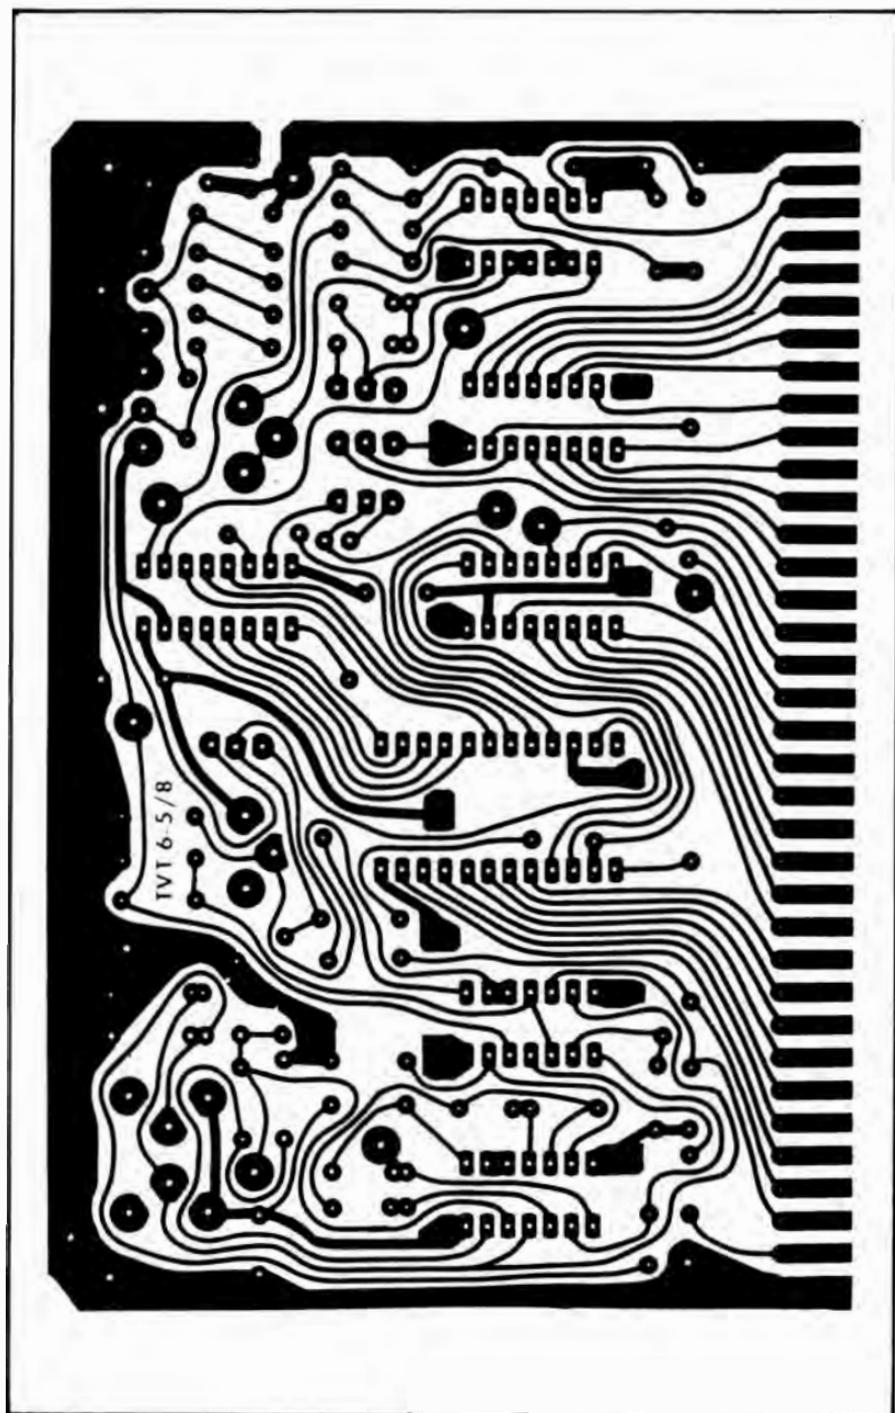
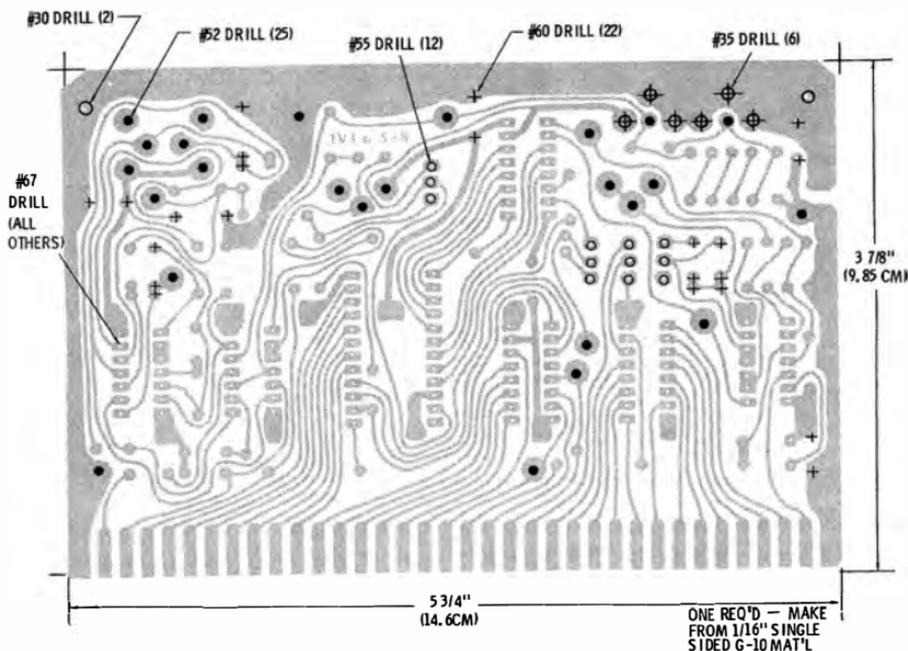
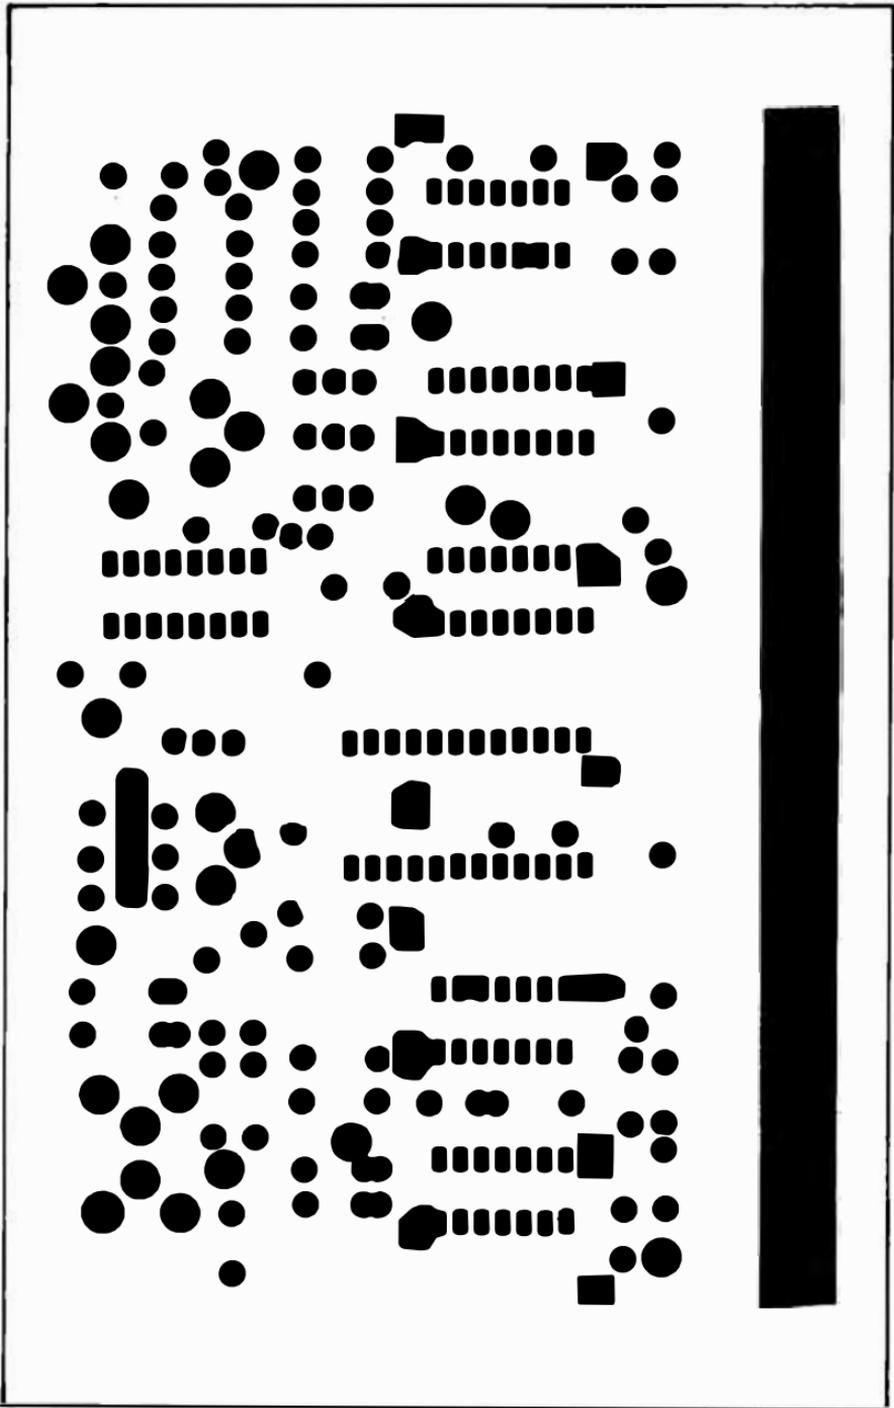

Fig. 4-4. Full size pc board pattern for TVT 6 5/8.
Fig. 4-5. Mechanical and drilling details for TVT 6 5/8.
Fig. 4-6. Solder mask for TVT 6 5/8 (full size).
MISC.	Pc board, etched and drilled (see Figs. 4-5 through 4-7); bus strips for + and ground (see Figs. 4-8 and 4-9); data-to-video IC7 programming modules (see Figs. 4-10 through 4-14); jumper material; pc test point terminals (11); insulated sleeving; solder; 24-pin IC socket (1); 16-pin IC sockets (3); 14-pin IC sockets (3); Optional—36-pin 0.156" single entry pc connector; Optional—output cable, shielded phono jack to miniature phone
A full size printed-circuit layout appears in Fig. 4-4 with its mechanical and drilling details in Fig. 4-5, and solder mask in Fig. 4-6. A single-sided layout with only ten jumpers is used. Components are arranged as shown in Fig. 4-7.